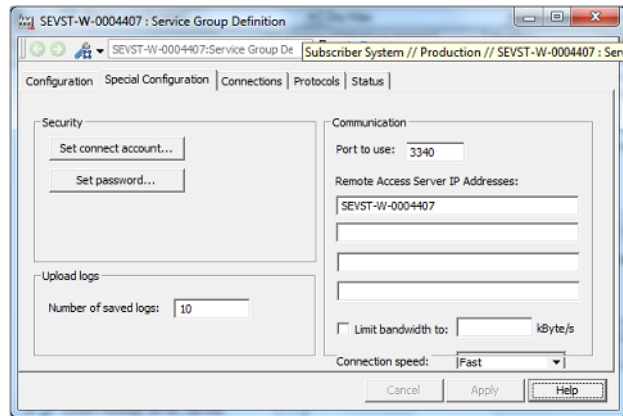

Figure 16. Remote Access Client, Special Configuration Tab
The configuration of the Remote Access Client can be changed after the Remote System object is created. Select **Service Structure** and open the Services/Remote Access Client/Service Group. Select the **Service Group Definition** aspect, the **Service Group Definition** dialog is displayed, see Figure 16.
3. Click **Set Password**, see Figure 16. Password only have to be set if encryption is used.